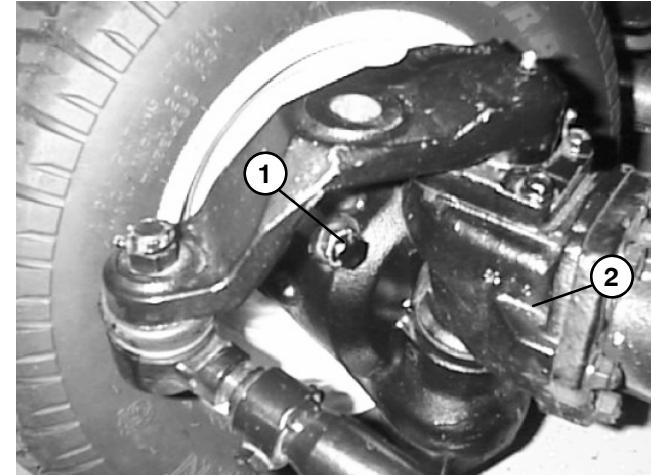

Figure 10
11. Check steering stop bolt adjustment. When the steering cylinder is fully extended (right turn), a gap of $1/16$ " (1.6 mm) should exist between bevel gear case casting and stop bolt on left axle case. Figure 10 shows stop bolt location.